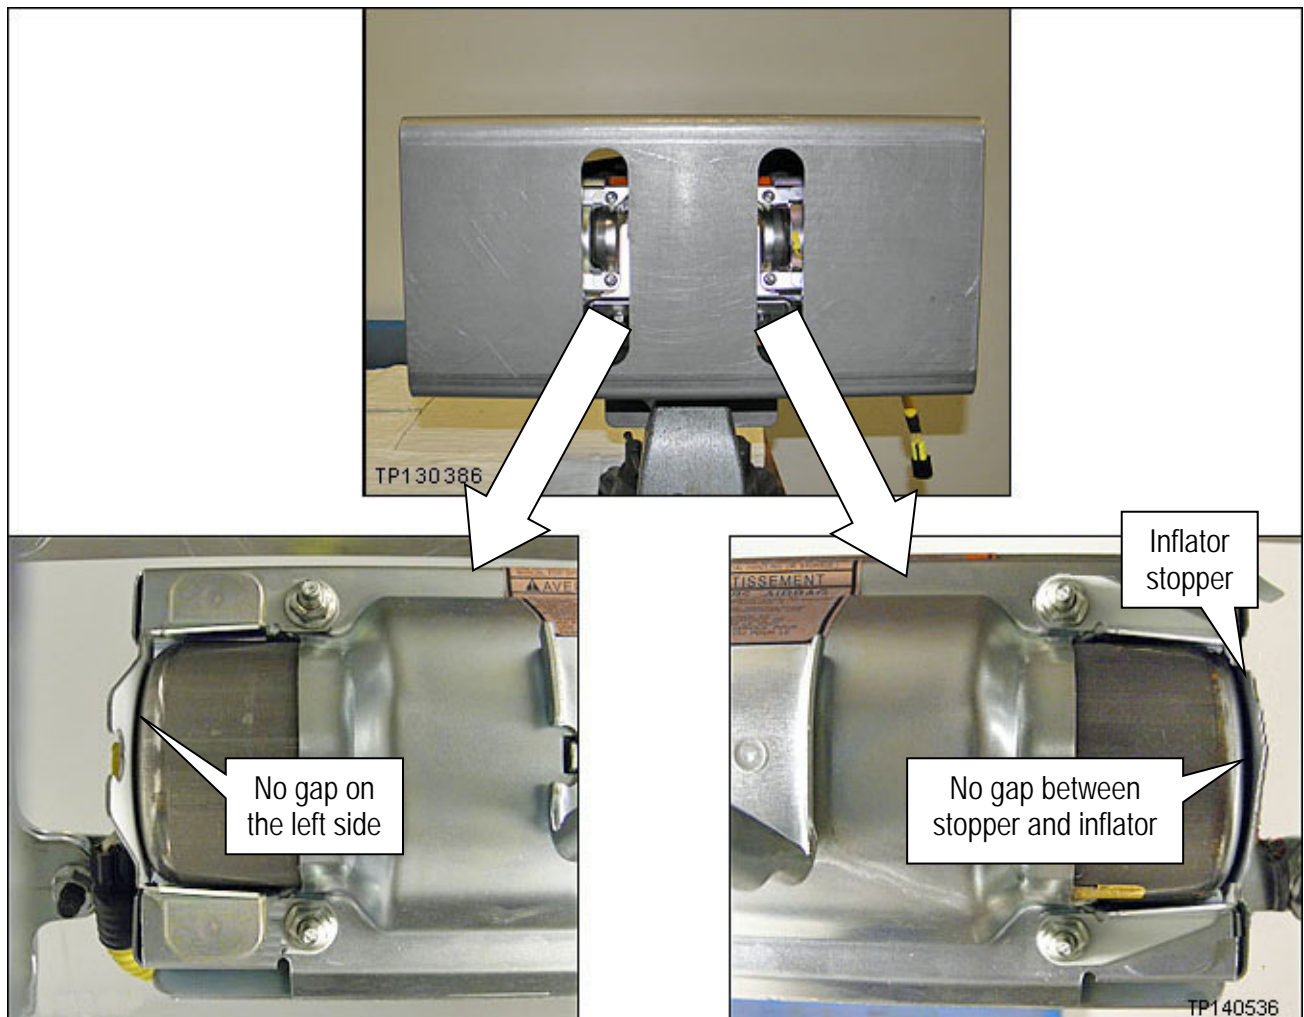

Figure Y15
31. Install the inflator stopper and 4 inflator securing nuts finger tight (see Figure Y15).
32. Make sure the inflator is pushed all the way into its housing – no gap on the left side (see Figure Y15).
33. Make sure there is no gap between the inflator stopper and the inflator on the right side (see Figure Y15).